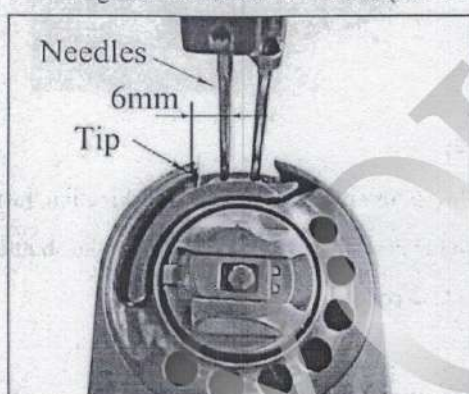
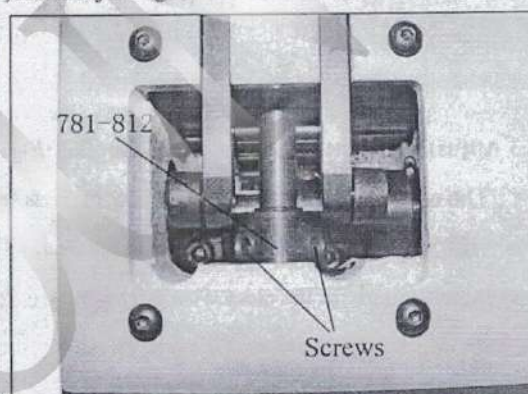

Fig.15
Fig.16
4.4 Adjustment setting of shuttle's position (Fig.15、 Fig.16)
- Lift the end of claw lifting lever (781-805) follow the arrow as shown in Fig.16, till the height of claw is suitable.